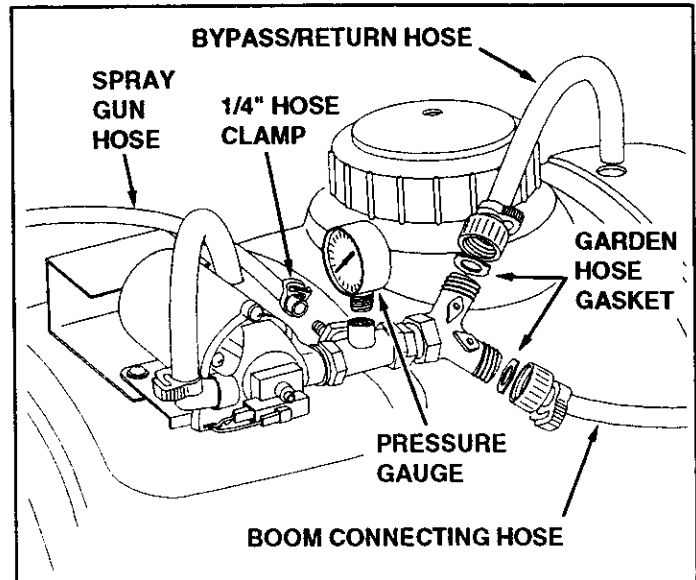

FIGURE 10
- Insert a garden hose gasket into the swivel nut on the bypass/return hose. Screw the nut onto the upper outlet of the "Y" valve fitting. Place the other end of the hose down through the hole at the rear of the tank. See figure 10.
- Insert a garden hose gasket into the swivel nut on the boom connecting hose. Screw the nut onto the lower outlet of the "Y" valve fitting. See figure 10.
- Slide the 1/4" hose clamp onto the spray gun hose. Push the hose onto the hose adapter on the side of the "T" fitting as shown in figure 10. Tighten the clamp around the hose and the adapter. Wrap the hose around the tank and snap the spray gun into the clips on the side of the tank.
- Carefully screw the pressure gauge into the top of the "T" fitting. See figure 10.